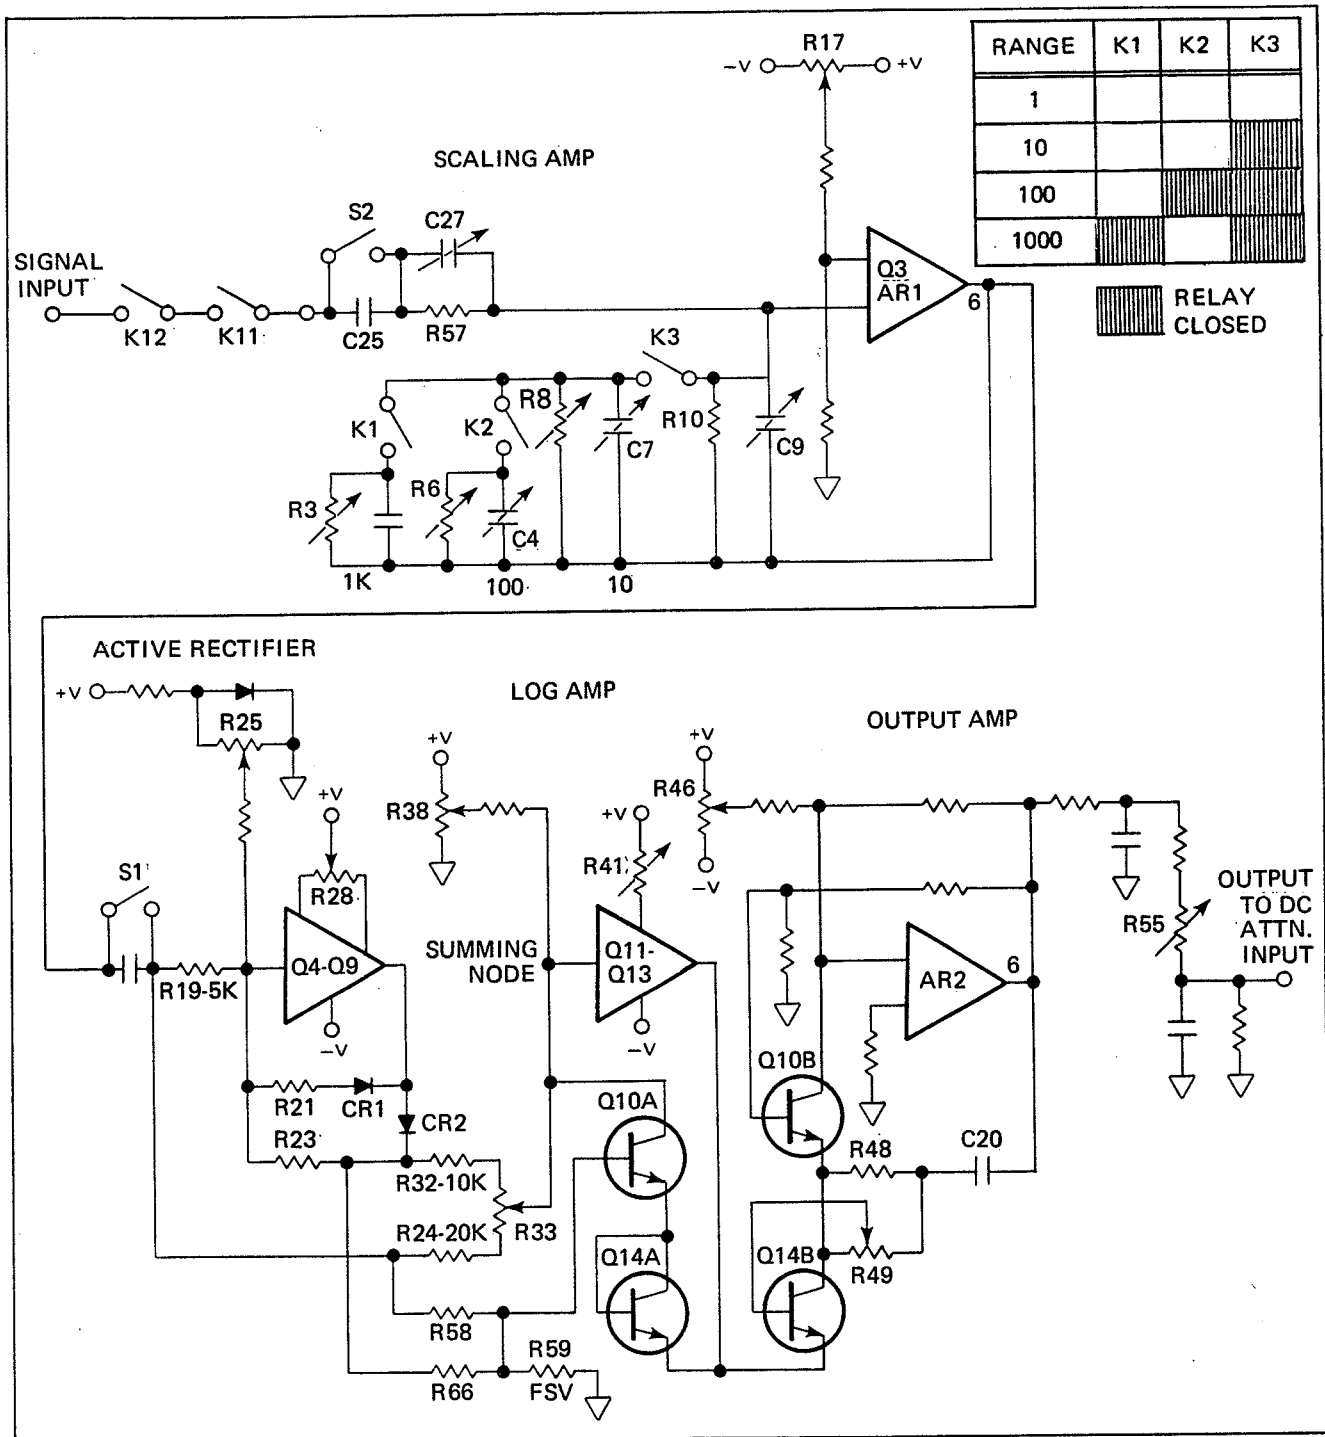

Figure 4.7 - RMS AC Converter
4.3.7.2 From the DMM input terminals, the AC signal is routed to C25 coupling capacitor, through the AC relay K12 (energized) and through the Ohms relay K11 (De-energized). The AC signal continues through the RC network of R57 and associated components to the input of the scaling amplifier. A simplified drawing of the RMS assembly is shown in Figure 4.7, a take-off from schematic drawing 432131.